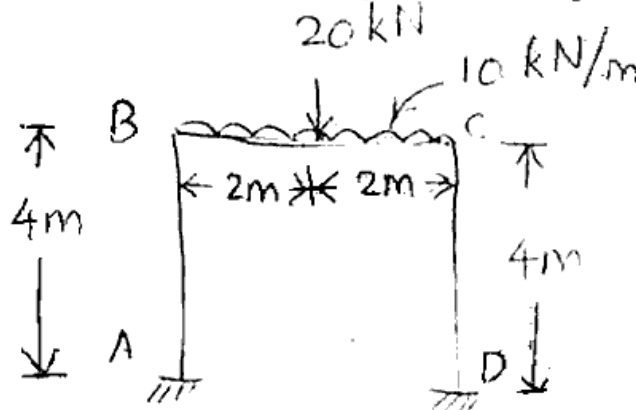

Fig Q. 12 (a)
12. (a) Analyse the portal frame ABCD shown in Fig Q. 12 (a) by stiffness method and also sketch the bending moment diagram.